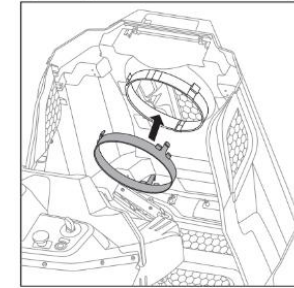

Fig. 1
4. On the tractor, disengage the transmission bypass rod by pulling the rod out and pushing it to the right (Fig. 1 A)
1. Lift the tractor hood (Fig. 1)
2. Locate the air intake shroud (Fig. 1)
3. Line up the spacer, making sure the smaller tabs lock into the internal slots and the larger tab, in the middle, locks into the outside slot (Fig. 1)